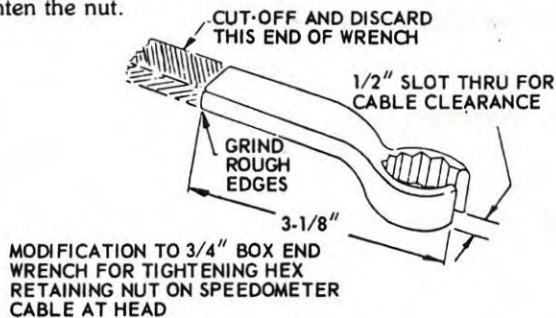

Fig. 1—Speedometer Wrench
A. Check the cable attaching nut and ferrule for tightness to the speedometer head. If loose, an altered wrench such as shown in Fig. 1, makes a handy tool to quickly and easily tighten the nut.